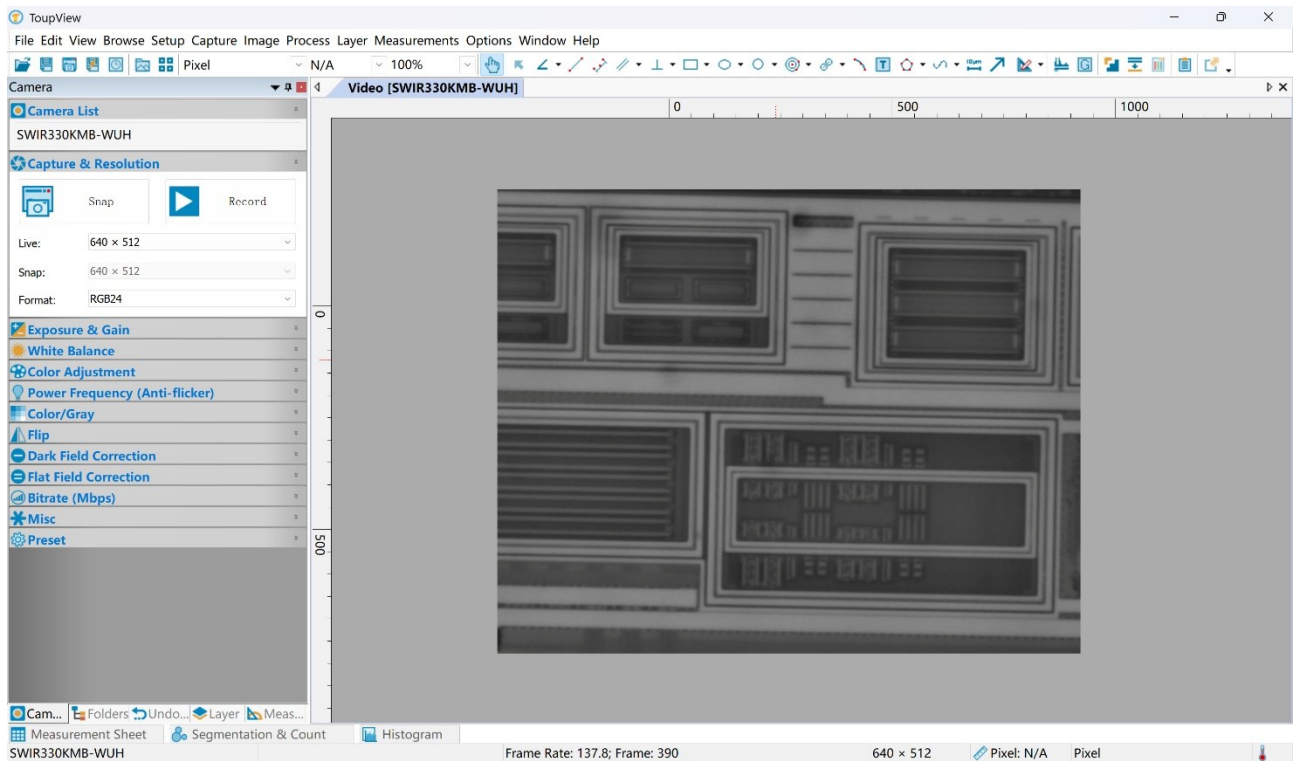

Figure 7 ToupView and SWIR330KMB-WUH Camera in USB Mode
- Install ToupView/ToupLite on your PC or install ToupView App on the mobile device; Run the software ToupView/ToupLite, clicking the camera name in the camera list n to start the live video as shown in Figure 7.